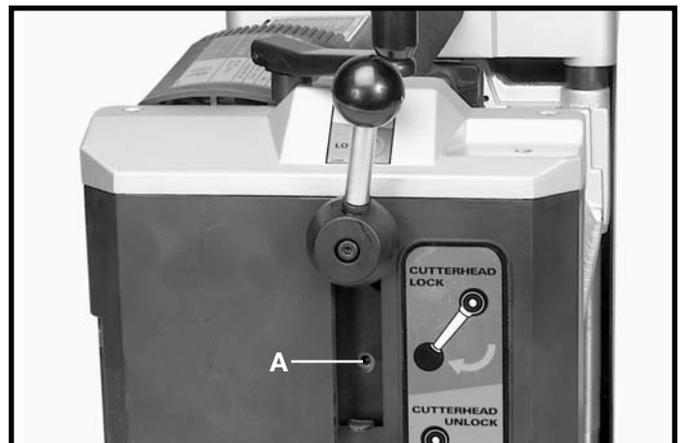
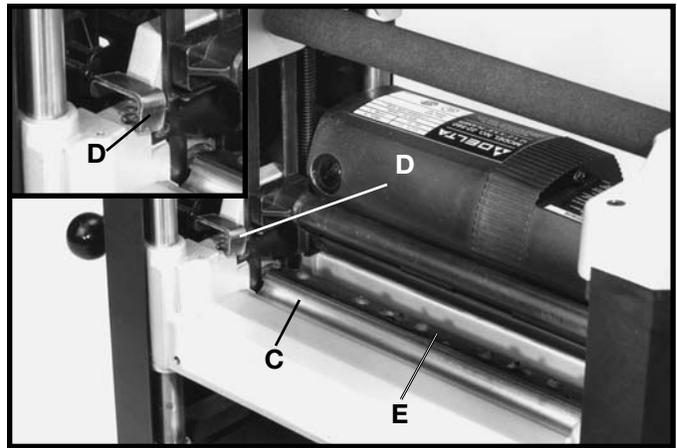

Fig. 28
Fig. 29
4. Figure 29 illustrates the cutterhead guard removed, exposing the cutterhead (C).
5. Using the wrench supplied, rotate cutterhead by inserting end of wrench into the hex hole (A) Fig. 28. Rotate cutterhead until the cutterhead lock (D) Fig. 29, engages and locks the cutterhead (C) in place.
6. Figure 29 illustrates the cutterhead (C) locked in place allowing access to the knife locking bar (E).